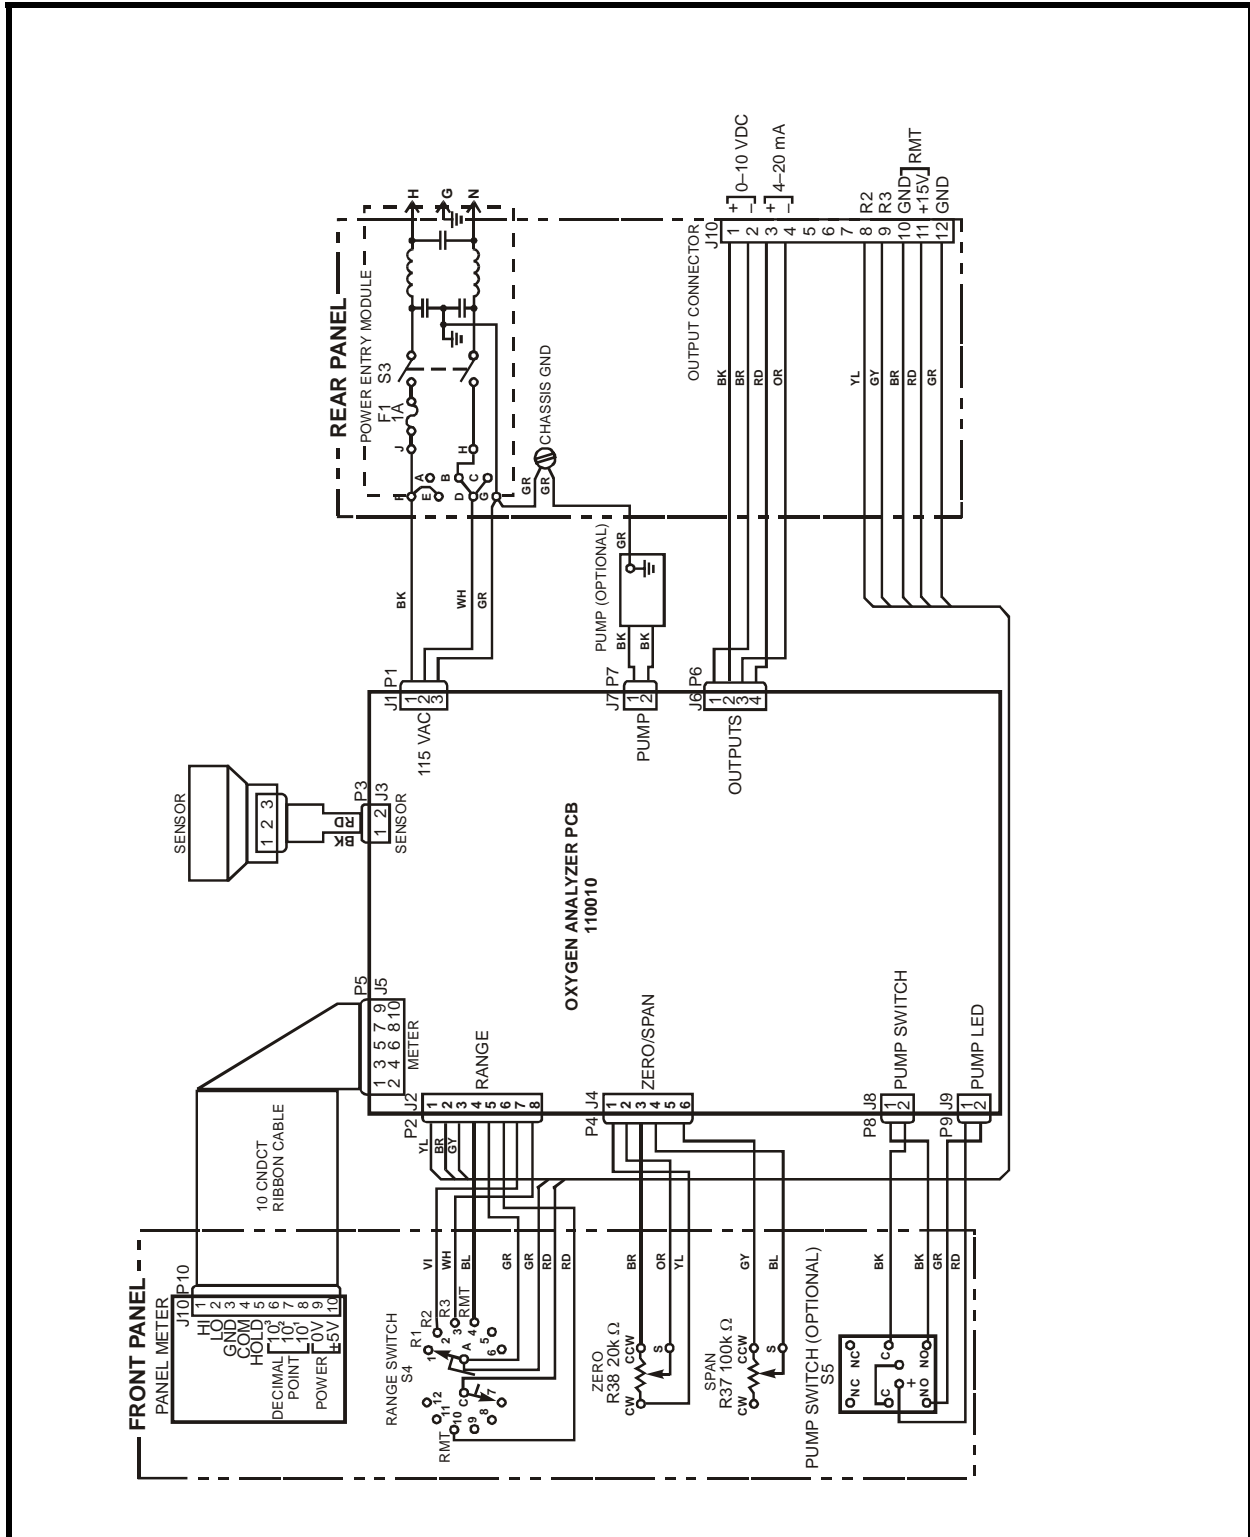

Figure 5-1 100F O₂ analyzer wiring diagram
- Figure 5-1 100F O2 analyzer wiring diagram